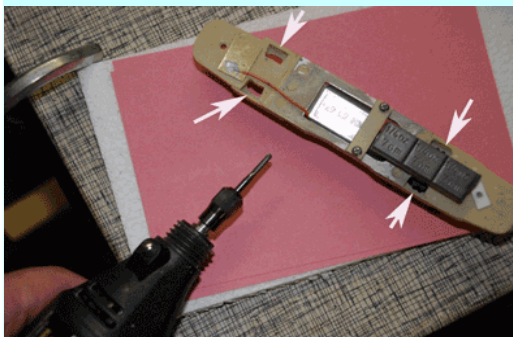

Figure 7 - Dremel Tool and Areas to be Enlarged.
From there, a wire is soldered to the plus terminal of the motor. Now all the wheels are powered and connected to the negative terminal, and the pole is connected to the plus terminal. Testing with a power pack showed that the motor ran well with the plus wire in the pole bushing, and the negative wire attached to any of wheels. Accordingly, it seemed like it should be ready to run. Not-so-fast again! Now we needed to address an insufficient turning radius in the trucks. The first thing I did was to huddle with my great friend, Bob Dietrich, who devised and published a method to improve the turning radius in the Bachmann Peter Witts several years ago. This involves lengthening the U-joints in which the trucks are constrained to allow more swing in the trucks. This step is essential for satisfactory operation and turning, especially in ORR 2400/2403 turnouts. I have two such turnouts on my layout and one other reasonably sharp radius (maybe 7-1/2 inches) so this step was vital. It involves using a Dremel high-speed cutter tool, part 194, 1/8" 3.2mm, to slightly lengthen those U-joints (Figures 7 & 8 below). Omit this step and the car cannot operate.
*NOTE: The enlargement of the holes identified with the white arrows in Figures 7 & 8 is a step that must be done slowly and carefully. Cut too much and you may have ruined the floor and possibly the model.*